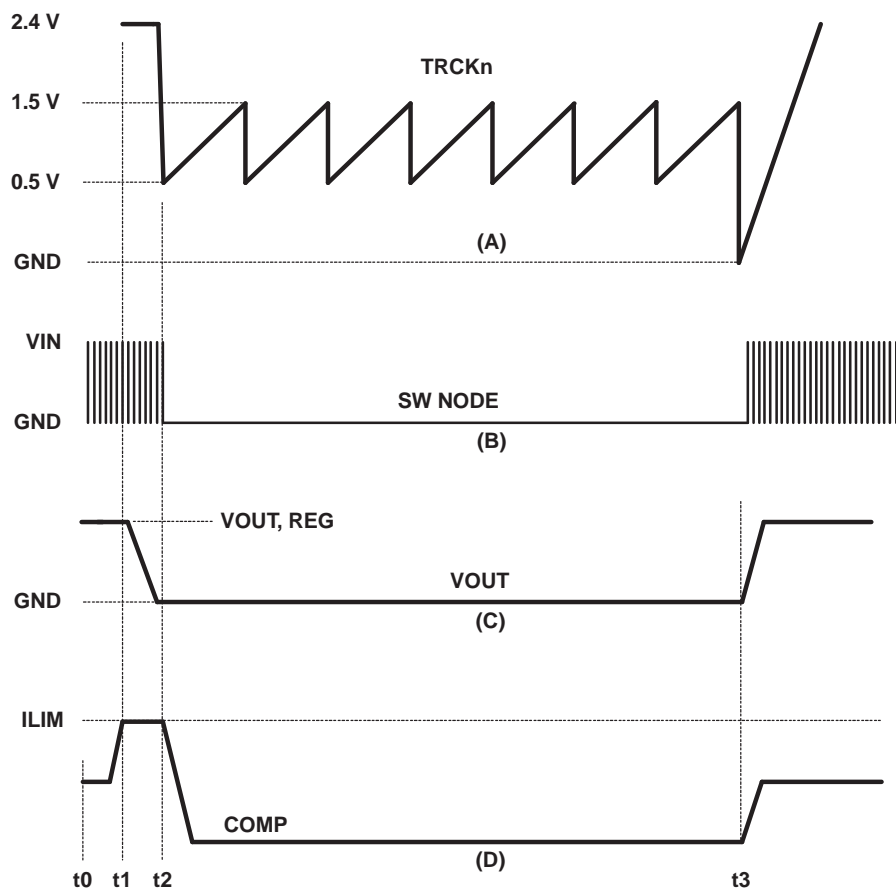

Figure 5-9. Hiccup Mode and Recovery
In order to reduce the input current and component dissipation during an overcurrent event, a hiccup mode is implemented. Hiccup mode refers to a sequence of 7 soft-start cycles where no MOSFET switching occurs and then a re-start is attempted. If the fault has cleared, the re-start results in returning to normal operation and regulation. This is shown in Figure 5-9.
In Figure 5-9, normal operation is occurring between t0 and t1 as shown by  $V_{OUT}$  being at the regulated voltage, (C) and normal switching on the SW NODE (B) and COMP at it's nominal level, (D). At t1, an overcurrent load is experienced. The increased current forces COMP to increase to the ILIM level as shown in (D). If the COMP voltage is above the ILIM voltage for 7 switching cycles, the controller enters a hiccup mode. During this time the controller is not switching and the switching MOSFETs are turned off. The TRCKn voltage goes through 7 cycles of charging and discharging the soft-start capacitor. At the end of the 7 cycles the controller attempts another normal re-start. If the fault has been cleared, the output voltage comes up to the regulation level as shown at time t3. If the fault has not cleared, the COMP voltage again rises above the ILIM voltage and the hiccup mode repeats.